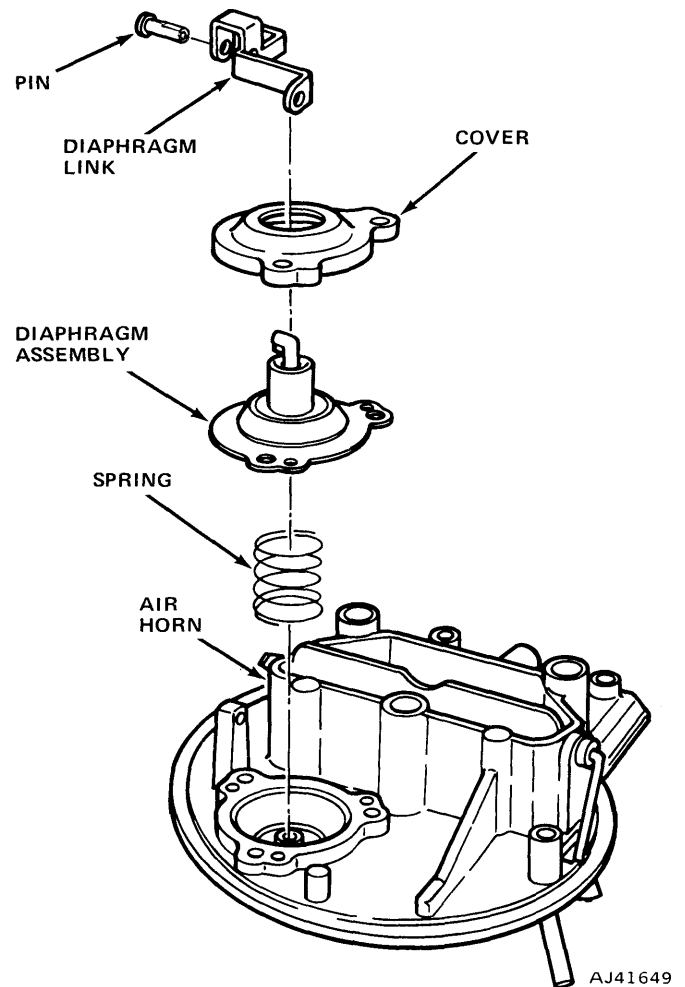

Fig. 4-71 Choke Modulator Assembly
(2) Remove automatic choke rod retainer from thermostatic choke shaft lever.
(3) Remove air horn attaching screws, lockwashers, and carburetor identification tag. Remove air horn and air horn gasket.
(4) Remove choke rod by loosening screw that secures choke shaft lever to choke shaft. Remove rod from air horn. Slide plastic dust seal out of air horn.
(5) Remove choke modulator assembly (fig. 4-71).